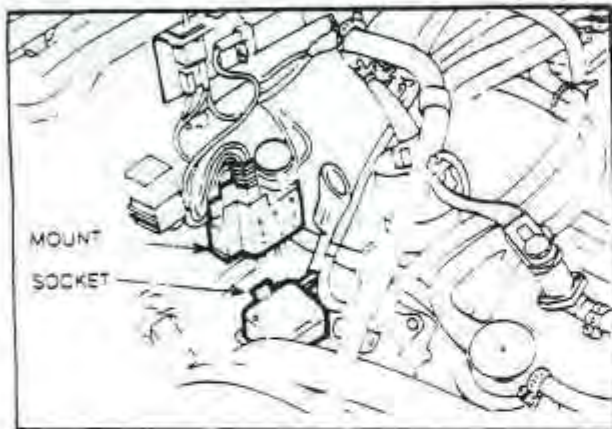

Fig. 26. GOVERNOR COMPUTER WIRING SOCKET AND MOUNT
2. Working in the engine compartment, disconnect the chassis wiring harness from the governor computer wiring socket. *Fig. 26*